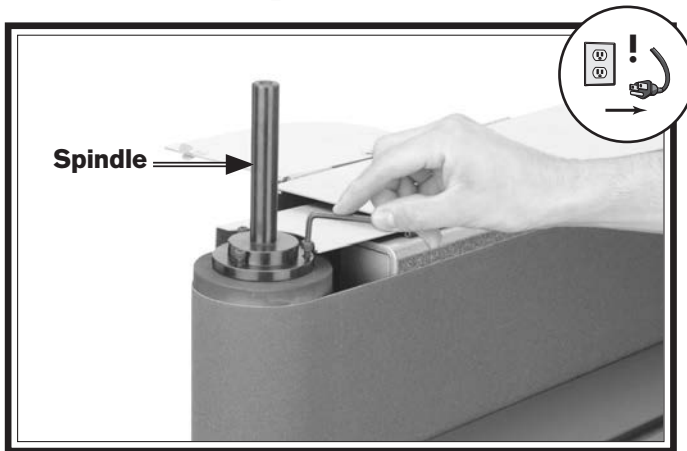

Figure 55. Attaching spindle to roller.
4. Attach spindle to roller using screws removed in **Step 3** (see **Figure 55**).